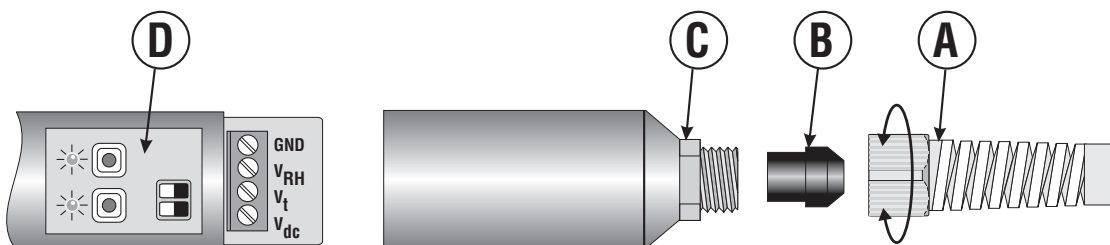

Fig. 3
Follow these procedures to access the transmitter terminal board (see fig.3): Unscrew grommet "A", take off rubber bulb "B" and unscrew bottom "C". Insert the cable through A, B and C elements and connect it to the terminal board. Hold the cable firmly while screwing grommet "A" to avoid twisting.
1. To access the panel board, unscrew grommet "A" (see fig. 3) and hold the cable firmly to avoid twisting. Take off the rubber bulb and unscrew the bottom of the instrument.
1. To access the panel board, unscrew grommet "A" (see figure 3) and hold the cable firmly to avoid twisting. Take the rubber bulb off and unscrew the bottom of the instrument.